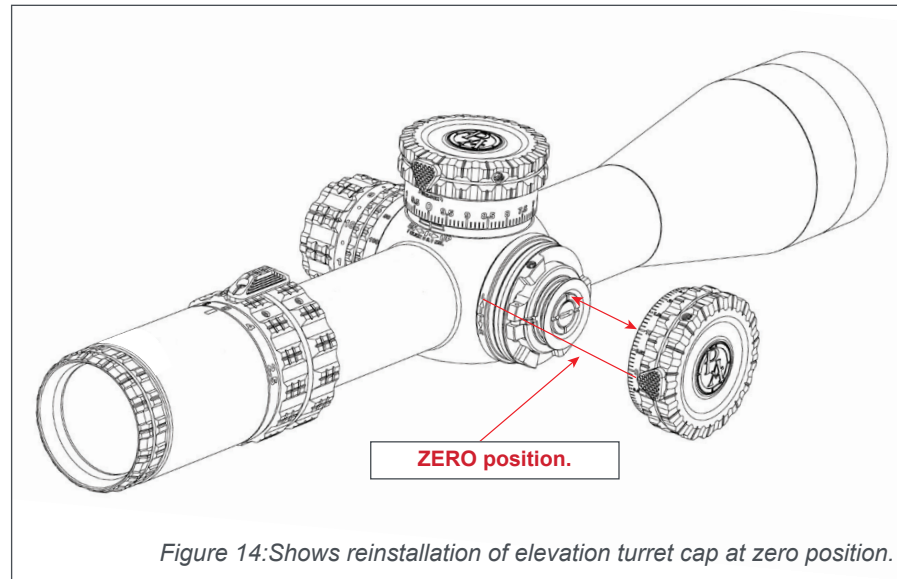

Figure 14: Shows reinstallation of elevation turret cap at zero position.
- c. Re-install the cap at zero position with the zero indicator **(-0-)** aligned with the zero indicator line on the rotation indicator on the scope body as shown in figure 14. The cap should be locked in place on the Auto Lock system. Re-tighten the turret cap set screws using the 1.5mm Allen Key provided. Recommended tightening torque is 8 in-lbs.